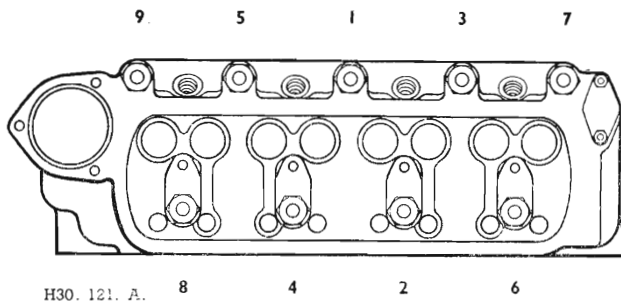

Fig. A.15. This figure illustrates the order of tightening cylinder head nuts.
- (5) Fit the nuts finger tight and then tighten them a turn at a time, in the order given in Fig. A.15, to the recommended torque spanner readings (see 'General Data.')
- (6) Reset the valve clearance, and replace the rocker cover using a new joint washer if the old one is damaged in any way.
- (7) Replace the inlet and exhaust manifold and carburetters and connect up the petrol pipe, throttle and choke controls and heater outlet pipe, if fitted. Tighten the manifold nuts evenly ensuring that a good joint is made.
- (8) Reconnect heater inlet pipe, water hose from the thermostat housing to the radiator, and breather pipe.
- (9) Refill the cooling system, replace the sparking plugs and their washers, and the high tension wires to their respective plugs.
- (10) Check the valve clearance again after the vehicle has run about 100 miles (160 km.) as the valves have a tendency to bed down. At the same time it is advisable to test the cylinder head nuts for tightness. Tightening the cylinder head nuts may affect valve clearances, although not usually enough to justify resetting.